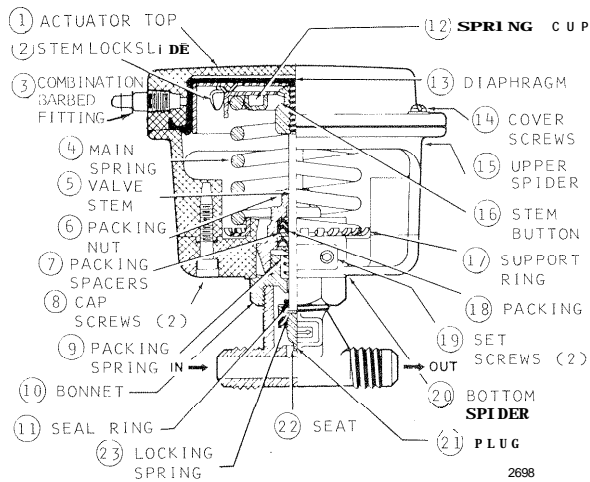

Fig. 2. Details of VP513A
## DIAPHRAGM REPLACEMENT (See Fig. 2):
## PACKING REPLACEMENT (See Fig. 2)
c. Remove bonnet (Fig. 2, ⑩).
b. Remove throttling plug (Fig. 2, ⑪) for access
Inspect integral valve seat (Fig. 2, ⑫). If defective, replace complete valve.